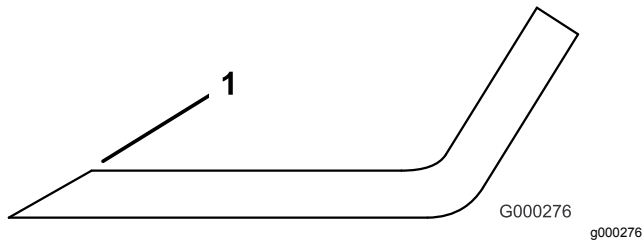

Figure 100
1. Use a file to sharpen the cutting edge at both ends of the blade (Figure 100).